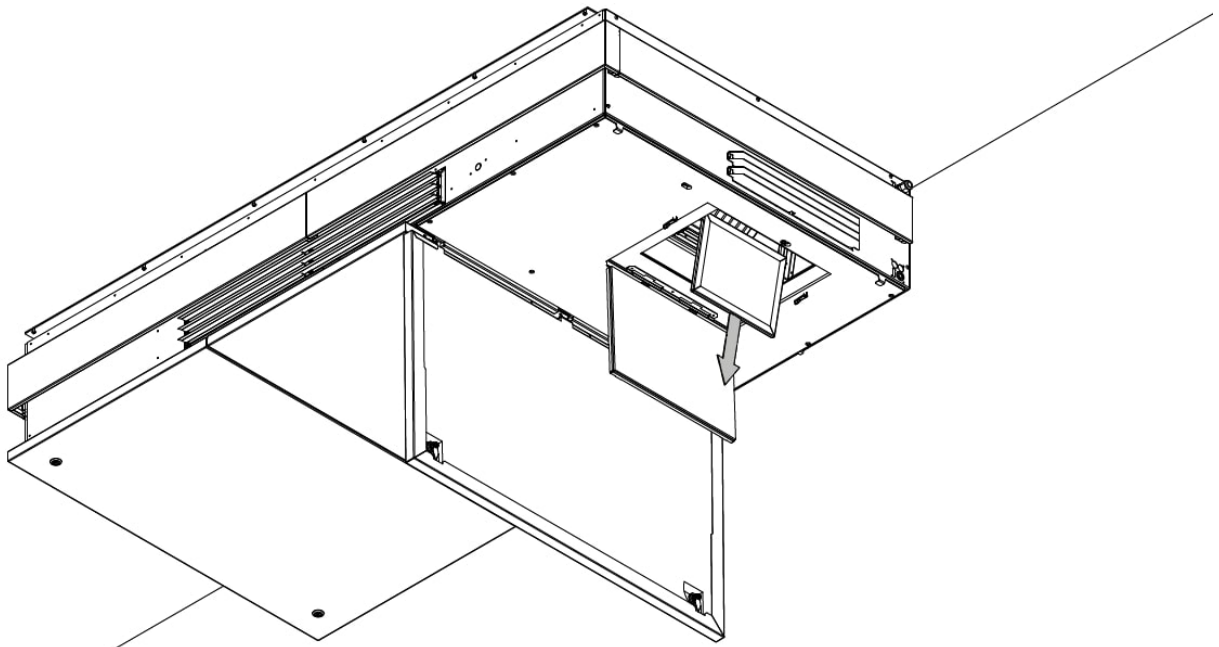
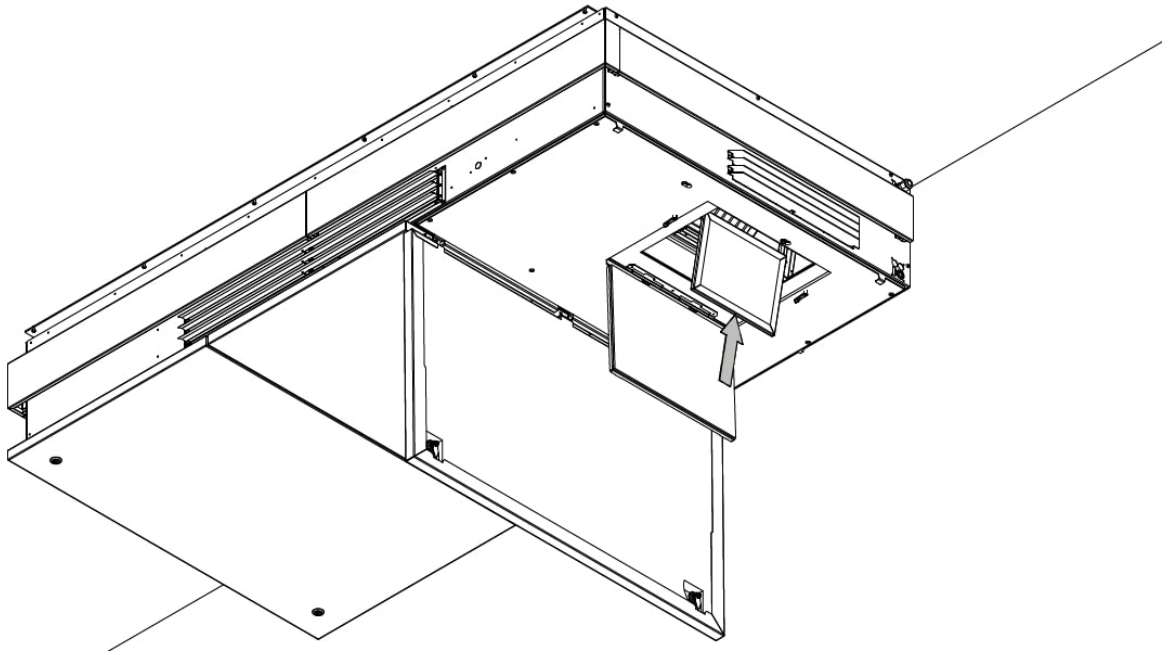

Figure 26: Take the coarse filter out
Figure 27: Replace the coarse filter with a new one
4. Take the filter out and replace it with a new one, see Figure 26 and Figure 27.